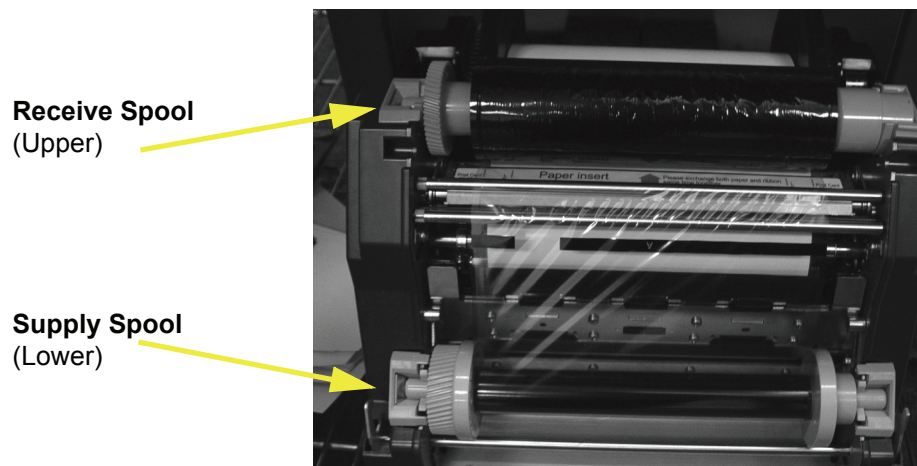

Figure 20. Ribbon Spool Placement
3. Remove the ribbon from the printer noting the placement of the receive and supply spools (see Figure 20).